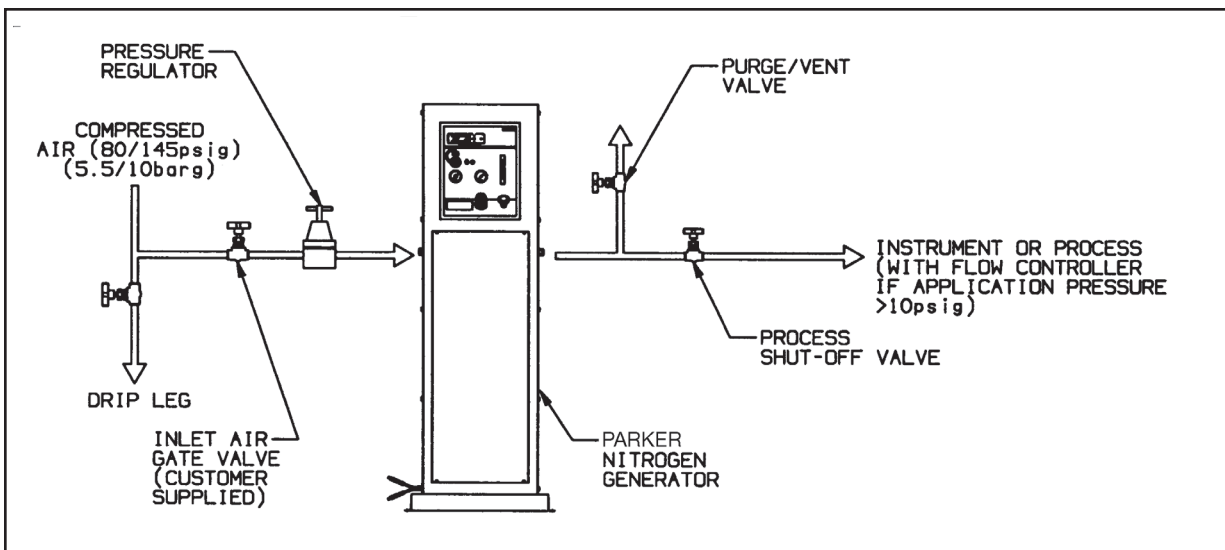

Figure 4
The inlet and outlet ports on the nitrogen generators are 1/2" female NPT. A 1/2" male connector which will withstand 145 psig (10 barg) should be used to connect to the nitrogen generator. Parker offers an installation kit (P/N IK75880) which combines all the basic fittings and refrigeration grade copper tubing required to bring the system online. This kit can be used to connect the generator to up to 2 instruments and to the compressed air supply. See Figure 4 for the recommended installation schematic.
6. Allow the system to reach equilibrium at the desired flow rate, pressure, and purity parameters. This should take approximately 15 minutes. Vent substandard nitrogen if necessary (see Figure 4).